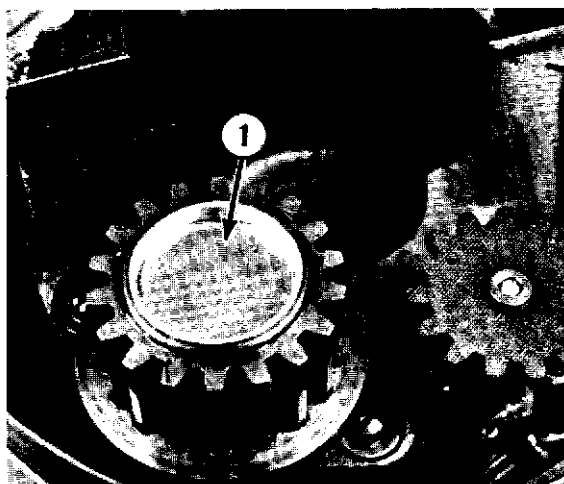

Fig. 10-7
B. Pry out the oil retaining cap (1, Fig. 10-7).